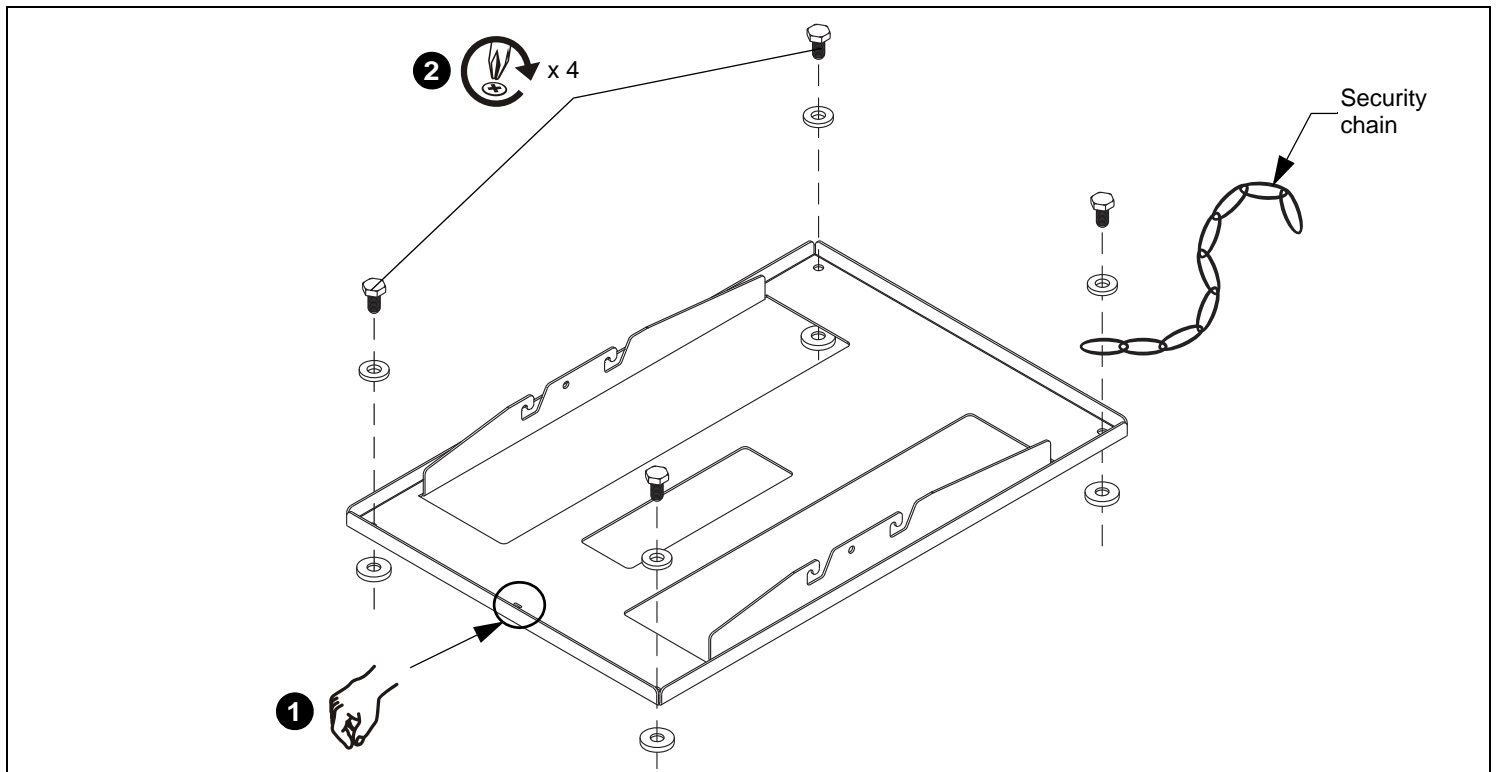

Figure 1
2. Lower custom HB bracket onto top of spacers and projector. Ensure that triangle in bracket points toward front of projector. (See Figure 1)
3. Attach HB bracket to projector using four M10 x 35mm hex head cap screws and four M10 washers through four holes in the HB bracket. (See Figure 1)
IMPORTANT ! : In rear corner of bracket, insert bolt through washer, one link of security chain, bracket and spacer to attach security chain to bracket. (See Figure 1)